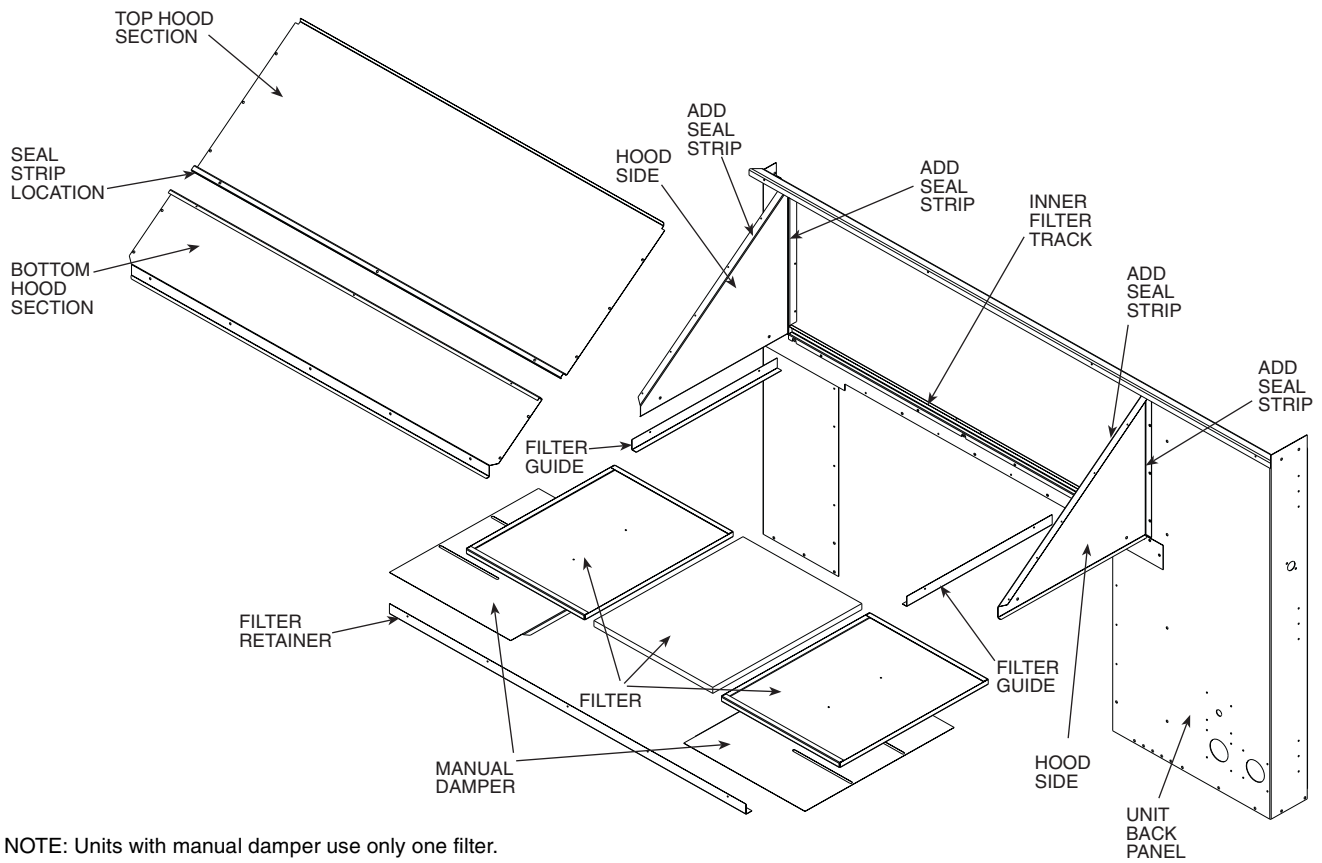

Fig. 1 — Outdoor Air Hood Details
3. Apply seal strip provided to back flange of both hood sides where the hood side connects to the unit back panel. See Fig. 1.
4. Apply seal strip provided to top flange of both hood sides where hood sides connect to the hood top panels. See Fig. 1.
5. Install hood sides to the back panels using the screws provided. The sloped flanges point outward. The drip edges of the side panels should face outward as well. The filter guides attach to the hood sides. The flanges should face inward to hold the filters in place. See Fig. 1.
6. Apply seal strip along the entire length of the bottom flange of the hood top. See Fig. 1.
7. Install the bottom part of the hood top using 4 screws provided. See Fig. 1.
8. Install the top part of the hood top using the 6 screws removed in Step 2. See Fig. 1.
11. Install the filter retainer track along the bottom edge of the outdoor air hood using 4 screws provided. For filter removal, remove the four screws holding the filter retainer. The filters can then be removed, cleaned, or replaced. Install the filters by reversing the procedure. See Fig. 1.